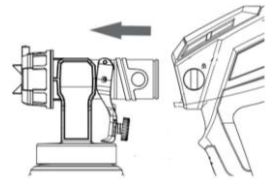

Fig. 18
7. Reconnect the spray attachment to the main body (Fig. 18).